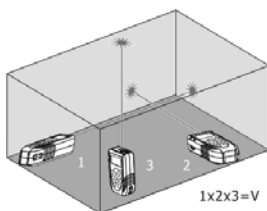

Fig. 6: Example of volume measurement
3. Press the key to perform the first measurement (length) of the surface (see Fig. 6). The corresponding value appears on the first partial display. The symbol "" appears on the display with side "1" flashing
4. Press the key again to perform the second measurement (width) of the surface (see Fig. 6). The corresponding value appears on the second partial display. The value of the corresponding area is shown in the resulting display. The symbol "" appears on the display with side "2" flashing
5. Press the key again to perform the third measurement (height) (see Fig. 6). The total value of volume is shown in the main resulting display